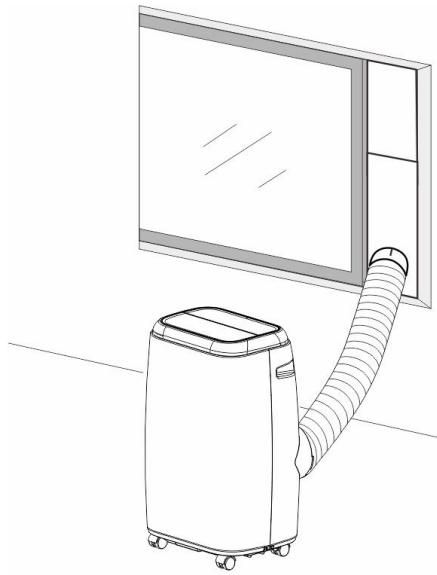
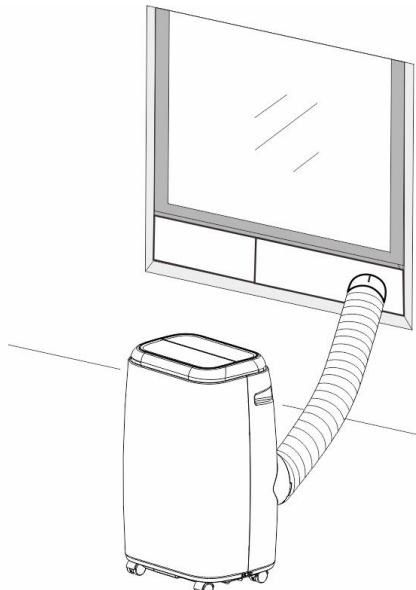

Fig.5
Fig.5a
- 2) As shown in **Fig.5** and **Fig.5a**, install the exhaust hose, and adjust the window position well.